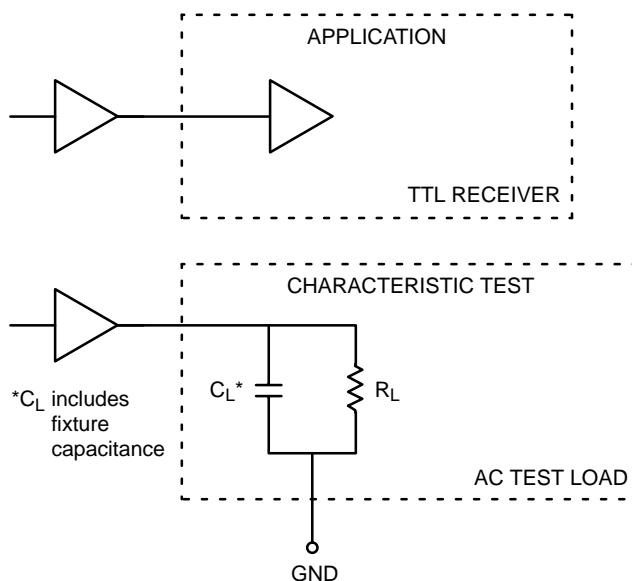

Figure 2. TTL Output Loading Used for Device Evaluation
10. $R_L = 500\ \Omega$ to GND and $C_L = 20\text{ pF}$ to GND. Refer to Figure 2.